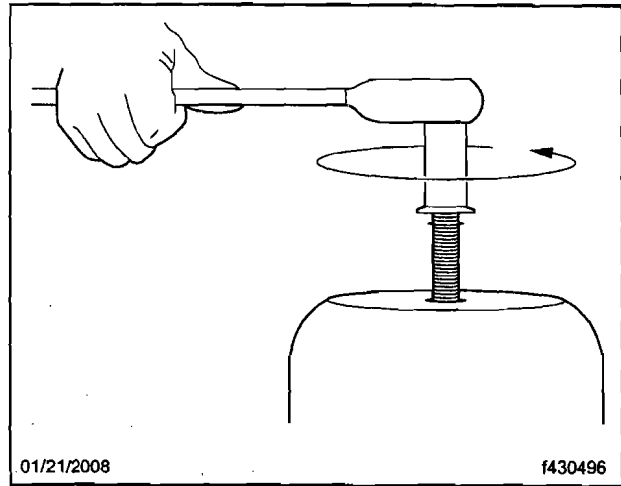

Fig. 6, Release Bolt
- 3.2 Using a 3/4-inch (19 mm) socket wrench (*do not use an impact wrench*), turn the integral release bolt counterclockwise until the power spring is fully caged or compressed. Full cage position requires approximately 22 to 23 turns for 3-inch (76 mm) stroke units. See Fig. 6.